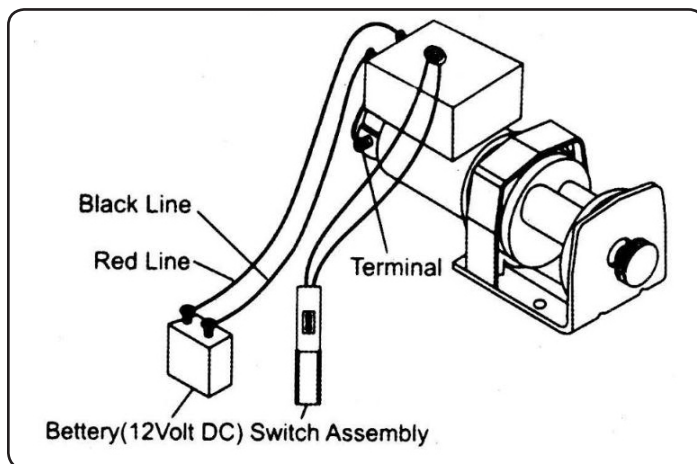

Figure 5.
3. Connect the winch leads. Connect red (+) lead of the winch connection cables to the positive (+) terminal of the winch motor. Connect the black (-) lead of the winch connection cables to the negative (-) terminal of the winch motor (Figure 5). **Battery cables should never be drawn fully taut. Always leave some slack for cable movement.**